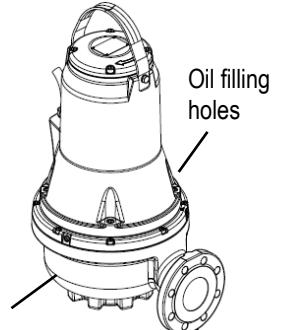

Fig. 6
**During positioning of the pump, air may remain blocked inside the pump body. The air may be removed from the pump body by installing the pump after having removed the cap of the vent hole positioned on the side of the pump. (Fig. 6).**